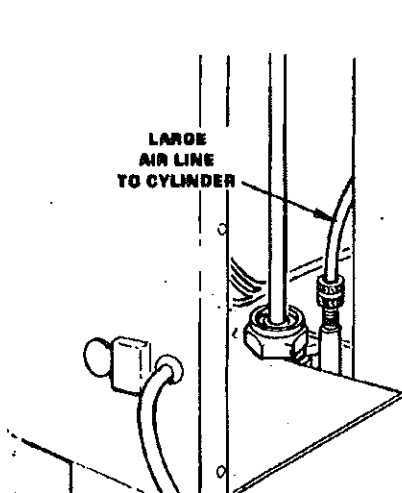

FIGURE 1
4. Remove the two exhaust hoses from the foam muffler, the large air line from the cylinder fitting, and the small air line from the compressor(Figures 1 and 2).